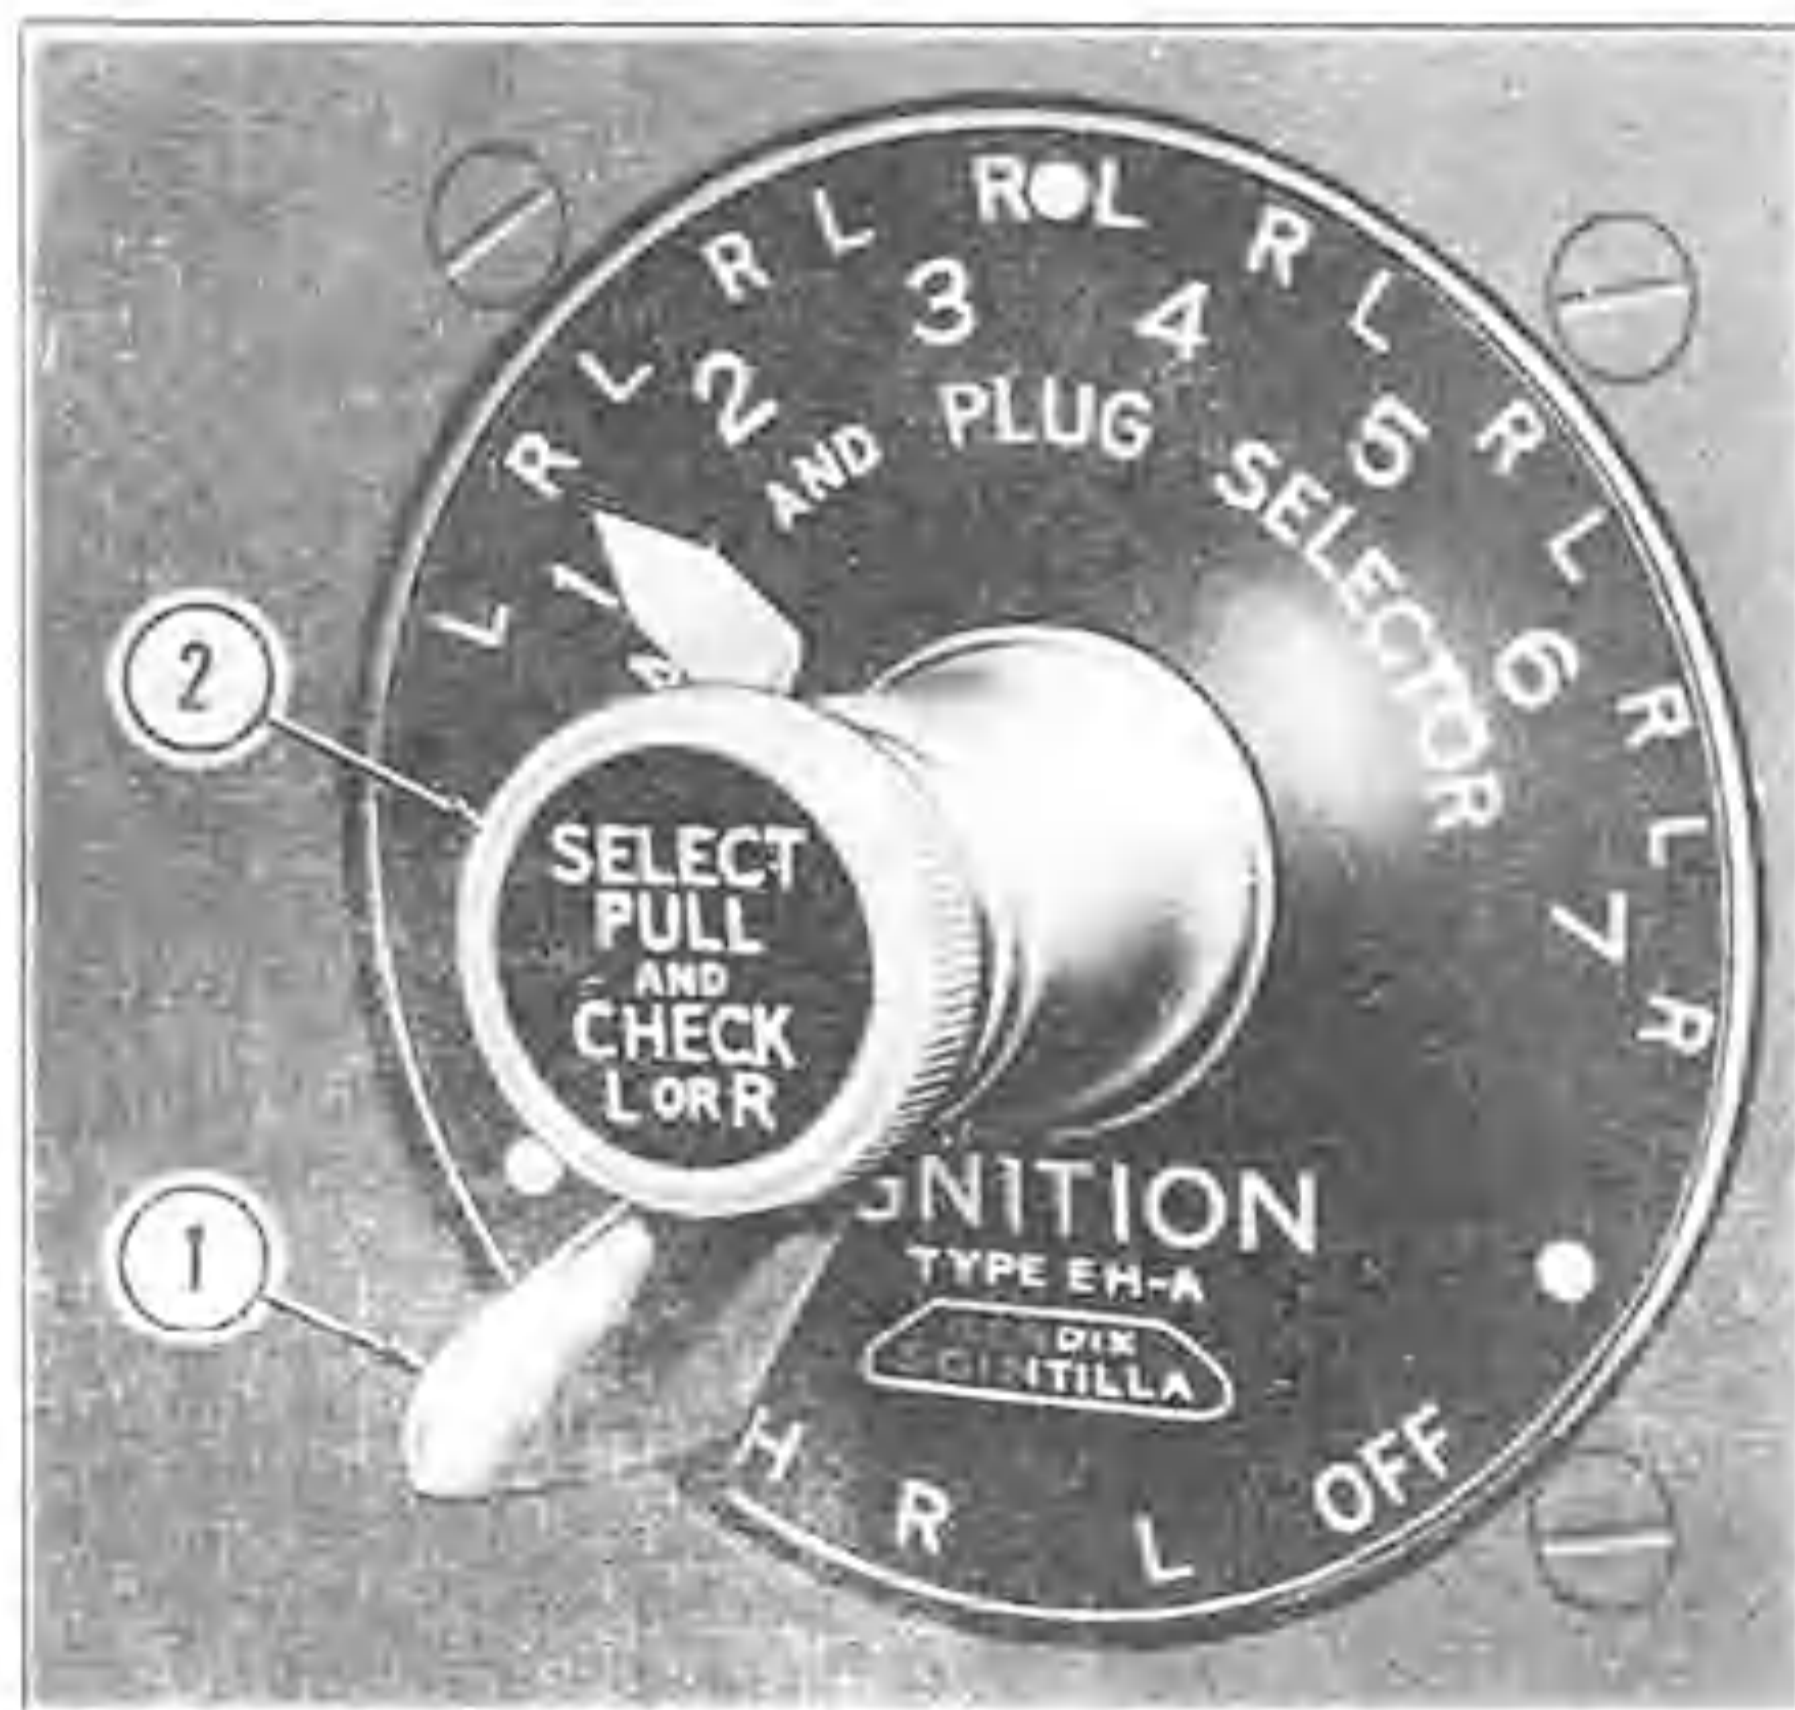

Figure 7 — Ignition Switch
(2) *IGNITION SWITCH*. (See figure 7.) — The ignition switch comprises two distinct controls. The lower lever is a conventional magneto grounding switch with positions *BOTH*, *R*, *L*, and *OFF*. When this lever is in the *BOTH* position, both plugs on every cylinder are firing. Turned to *R*,